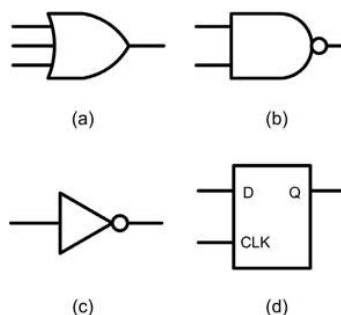

Fig.6.25. See Question 1
6.1. Identify each of the logic symbols shown in Fig.6.25